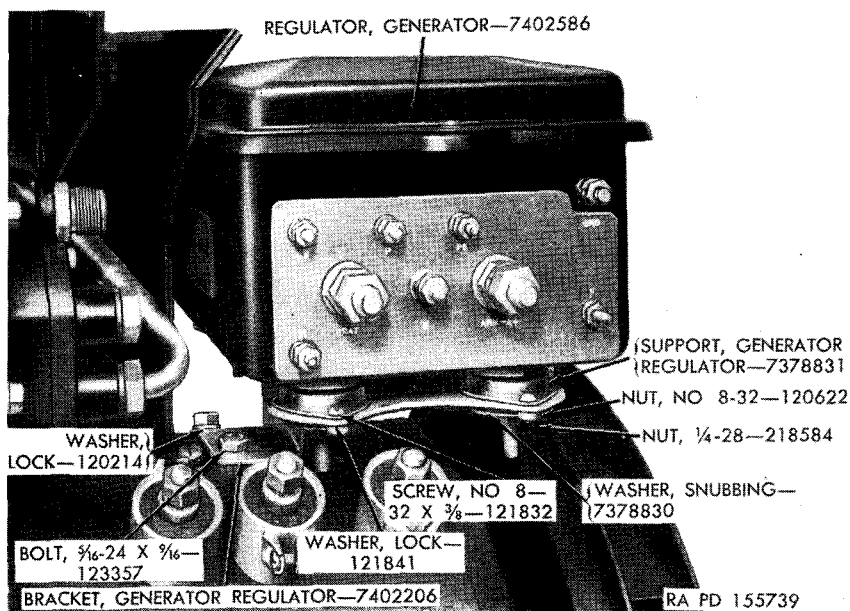

Figure 23. Generator regulator.
- a. Remove two $\frac{5}{16}$ -24 x $\frac{1}{4}$ bolts and lock washers holding generator regulator and bracket to generator (fig. 23).